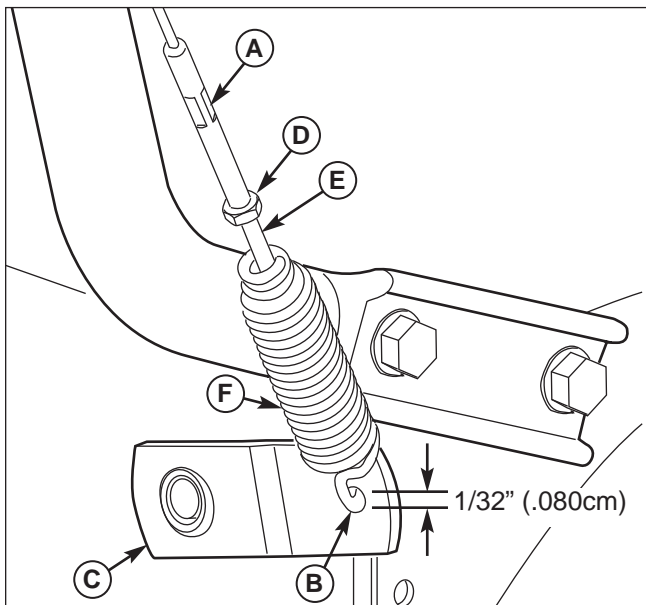

Figure 20. Auger Drive Adjustment
1. With the drive lever released, the hook (B, Figure 20) should barely touch the lever (C) without raising it. There can be a maximum 1/32" clearance as shown.
2. To adjust, loosen nut (D) by holding the adjusting flats (A) and turning nut (D). Turn adjustment flats and hold screw. The adjustment screw (E) is a phillips screw and the head can be held or turned by inserting a screwdriver through the spring (F).
3. Hold adjusting flats (A) and tighten nut (D).